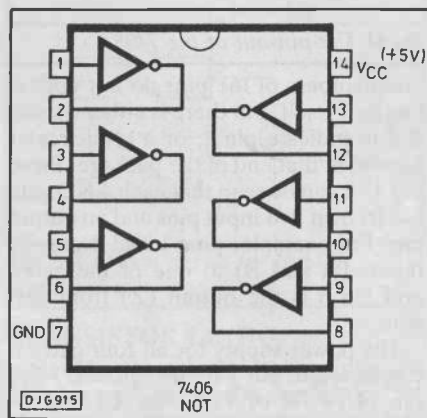

Fig.14 The pin-out of the 7406
This ic performs a logical operation that we have not discussed yet. The NOT gate has only one input (Fig.14) so there can be only two input states, low (0) or high (1).